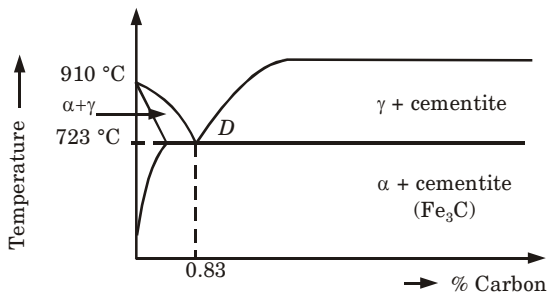

Fig. 3.13.1. Eutectoid phase diagram.
5. In the (Fig. 3.13.1), point *D* is called eutectoid point. The leftward region is called hypo-eutectoid (carbon percentage less than 0.8 %) and rightward region is called hyper-eutectoid (carbon percentage greater than 0.8 %).